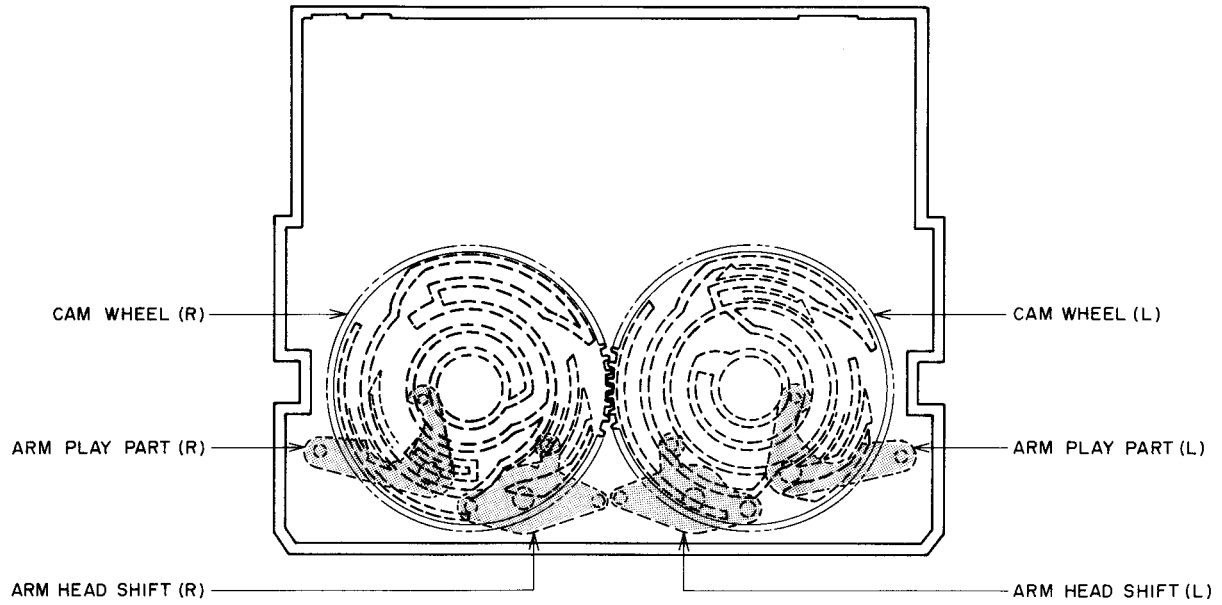

Fig. 6-5 The Location of Arm Head Shift & Arm Play (Inside View)
**6-1-3.** PULLEY CAM SLIT is driven by BELT CAM and drives CAM WHEEL (L), and the slits on PULLEY CAM SLIT are used for the detection of CAM MOTOR PULSE and CAM DIRECTION.
**6-1-4.** CAM WHEELS (L) (R) contain grooves to shift 8 mechanical parts shown in Figs. 6-5 & 6-6, which execute all the operations such as;